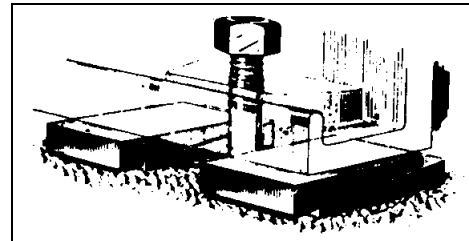

Figure 2 ADJUSTING WEDGES FOR MOUNTING
5. When the unit is received with the pump and the driver mounted on the base plate, it should be placed on the foundation and the coupling halves disconnected. The coupling should not be reconnected until the alignment operations have been completed. The base plate should be supported on rectangular metal blocks and shims or on metal wedges having a small taper. The support pieces should be placed close to the foundation bolts (Figure 2). On large units, small jacks made of cap screws and nuts are very convenient. In each case the supports should be directly under the part of the base plate carrying the greatest weight and spaced closely enough to give uniform support. A spacing of 24 inches is suggested on medium size units. A gap of about $\frac{3}{4}$ inches to $1\frac{1}{2}$ inch should be allowed between the base plate and the foundation for grouting.